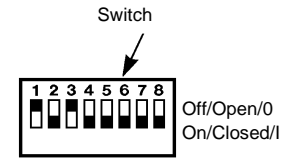

Fig.19
2. Set bit switch 1 'ON'. Set all other bit switches to 'OFF' - see Fig.19.
Switch settings as shown in Fig.19.